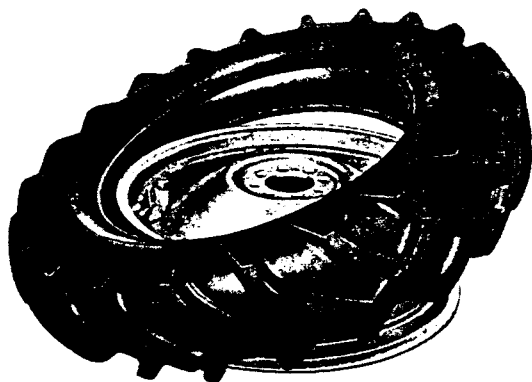

FIG. 3
2. Lie wheel on floor with valve hole upwards. Place cover and tube, valve pointing upwards, eccentrically over rim. Pass valve through hole in rim and screw rim nut lightly on to valve (Fig. 3).